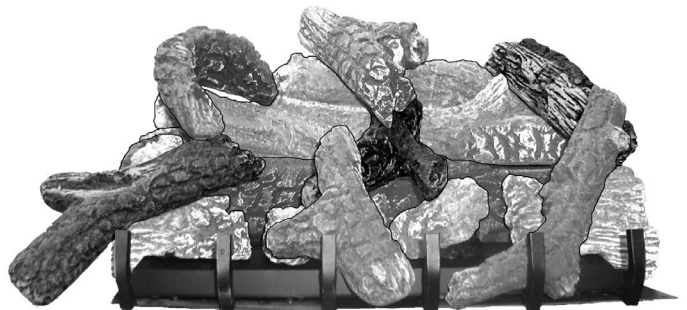

**Figure 65**
16. Place Front Right Log (M) on the fifth grate from the left with the top resting on (K) Log.
17. After all logs are properly positioned, place small "dime" size pieces of Rockwool lightly across the front round "blueflame" ports. Place the ember material (Rockwool pieces) side by side. Do not stack more than one layer of embers across the burner ports. **See Figure 65.**